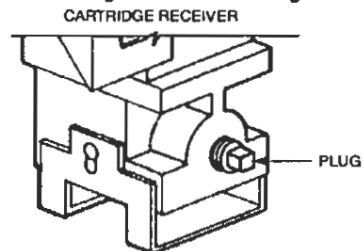

FIGURE 37
- ▶ 3. Remove plug from cartridge receiver. See Figure 37.